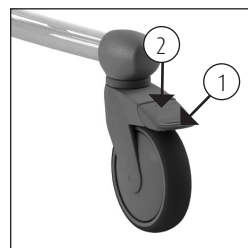

Figure 1. Swivel wheel.
- The brake can be applied on the Tango XL by pushing the blue lip (1) on the wheel downwards (See figure 1).
- In order to take the Tango XL off the brake, the same lip on the wheel must be moved upwards by tapping the upper side of the lip (2) (See figure 1).